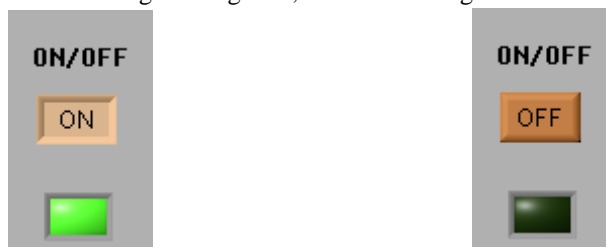

Fig 3-2 ON/OFF status display of the equipment selection button
2. Click the [Equipment ON/OFF] button to turn it “ON”. The indicator light is green. When the button is turned “OFF”, the indicator light will go off, as shown in Fig 3-2.